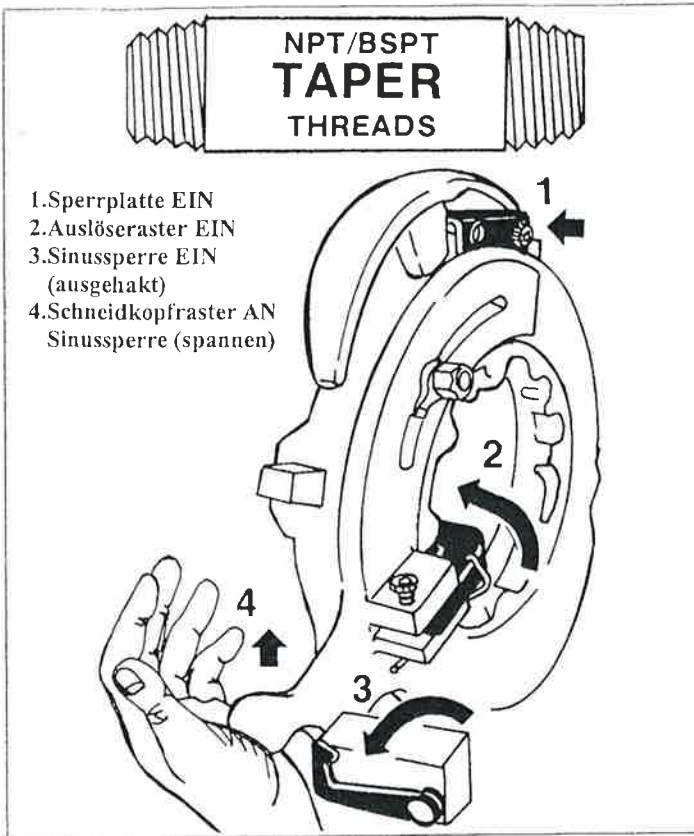

Figure 10 – Setting No. 714 or 914 Self-Opening Die Head for NPT or BSPT Threads
3. Position lockout plate IN. (Figures 10 & 13)
4. Release foot IN. (Figure 10)
5. Sine Bar should be IN (UNLATCHED). (Figures 10 & 13)
6. With die head in DOWN position, push UP on cam locking plate handle (Figure 10, step 4) until release foot latches in die head body.